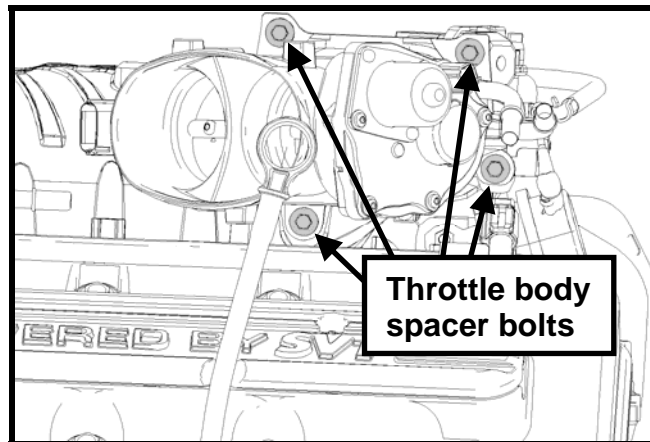

Fig. 25
**STEP 9:** Re-install the stock throttle body spacer assembly to the supercharger using the stock bolts and torque to 10 Nm (88 lb in) (See Fig. 25).